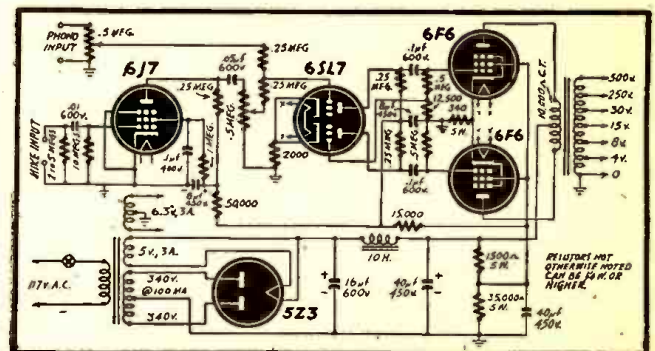

Fig. 4—Public address set for phonograph or microphone.
**A.** The diagram (Fig. 4) is designed to meet your needs, using your transformer. All resistors, chokes, and condensers are specified. The input to the grid will probably need shielding. To place all parts on a small chassis will require more care in shielding, and placement.